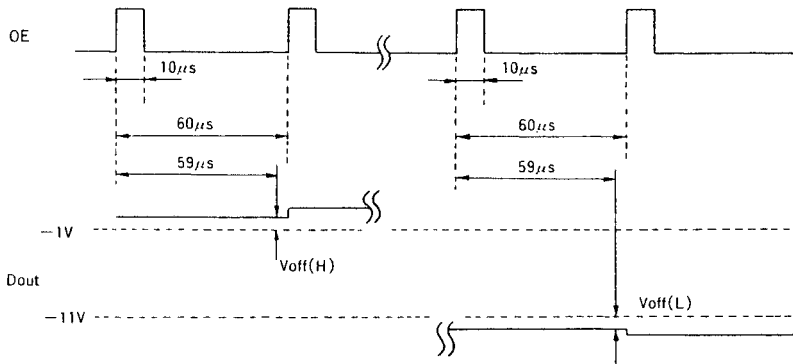

Figure 21 Offset Voltage
8. Definition of "offset voltage" is shown figure 21.